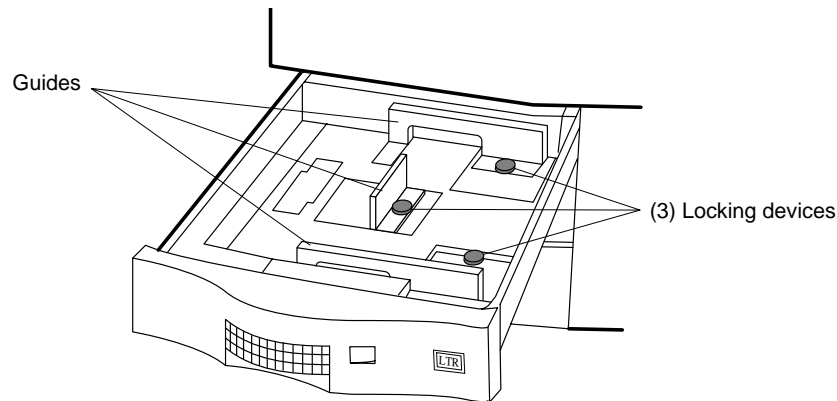

Figure 3-5 Paper guides
1. Each paper guide has a blue locking thumbwheel, as shown in Figure 3-5.